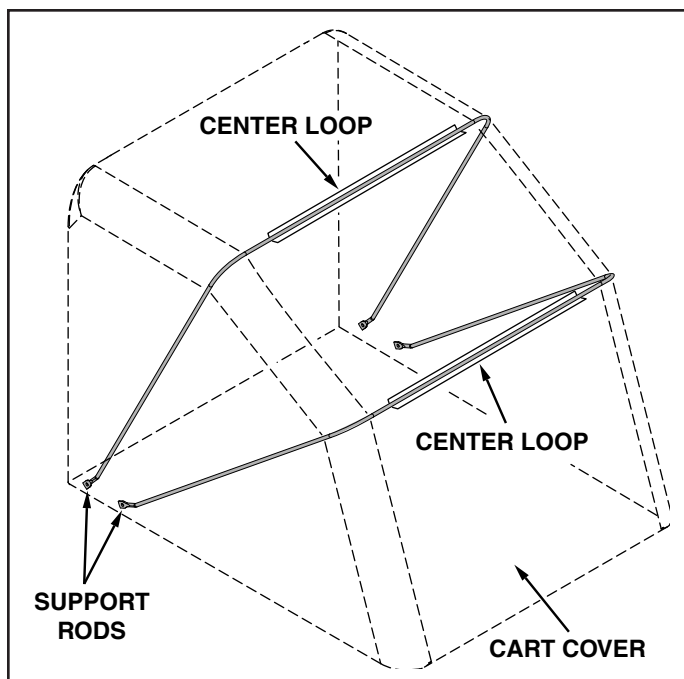

FIGURE 20
2. Slide two of the lower support rods through the center loops located in the top of the cart cover as shown in figure 20.